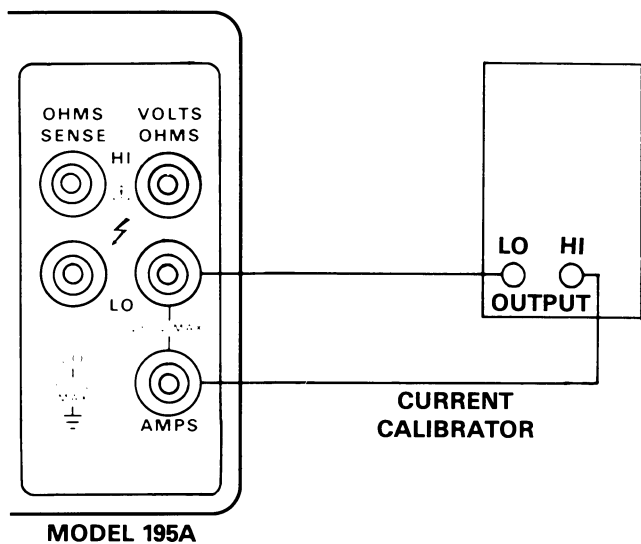

Figure 7-6. Current Calibration Connections
- 1. Connect the calibrator to the Model 195A as shown in Figure 7-6.